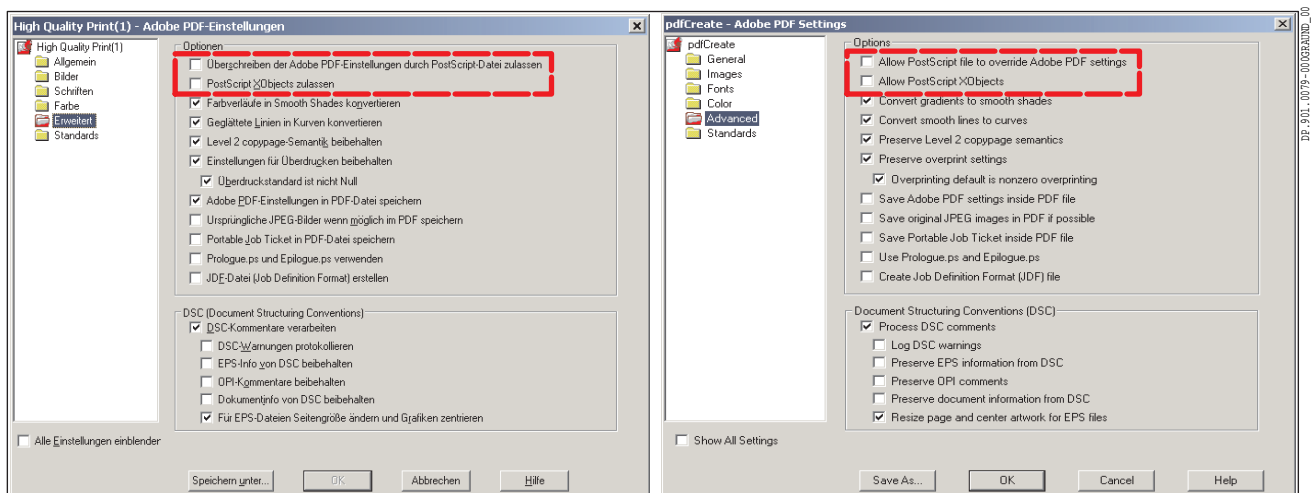

Fig. 40 **Extended** section
2. Set the parameters in the **Extended** section as shown in Fig. 40.